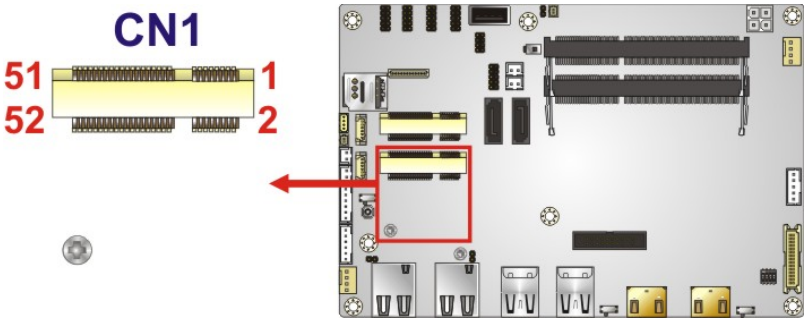

Figure 3-15: Half-size PCIe Mini Slot Location
- CN Location:** See **Figure 3-15**